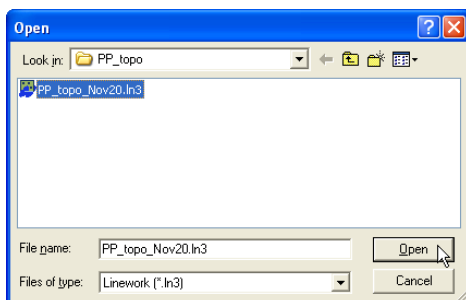

Figure 4-4. Open 3D Linework File
2. On the **Open** dialog box, navigate to the location of the file, select the file type as Linework (\*.ln3), select the desired file, and click **Open** (Figure 4-4).